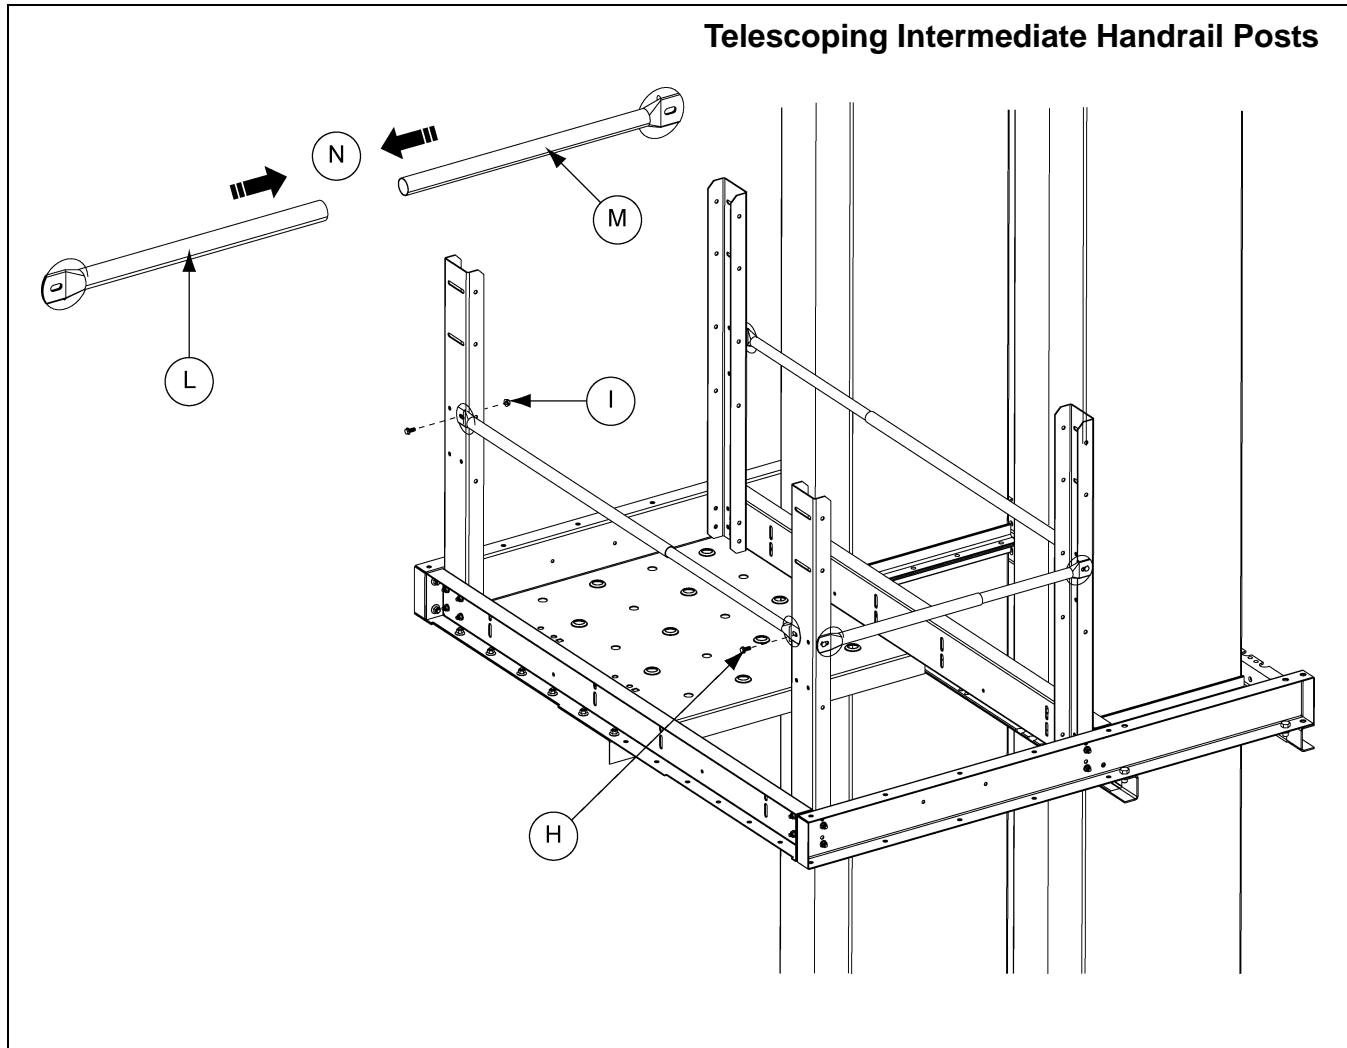

Figure 7J
5. Install the front and back intermediate handrails to the platform posts using 5/16" x 3/4" flanged hex bolts (S-6606) (H). Adjust the rail into position by sliding it out to the correct length.
6. After cutting the two (2) large and two (2) small intermediate handrails, slide them to the correct length and install them to the handrail posts on the short sides of the platform using 5/16" x 3/4" flanged hex bolts (S-6606) (H). (See Figure 7J.)